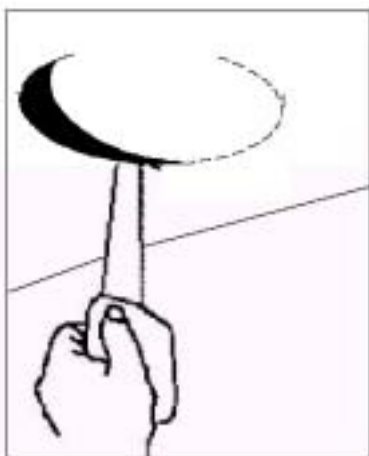

Figure 19
- 3) According the material of ceiling, choose the different tools to drill ( Figure19 ) .